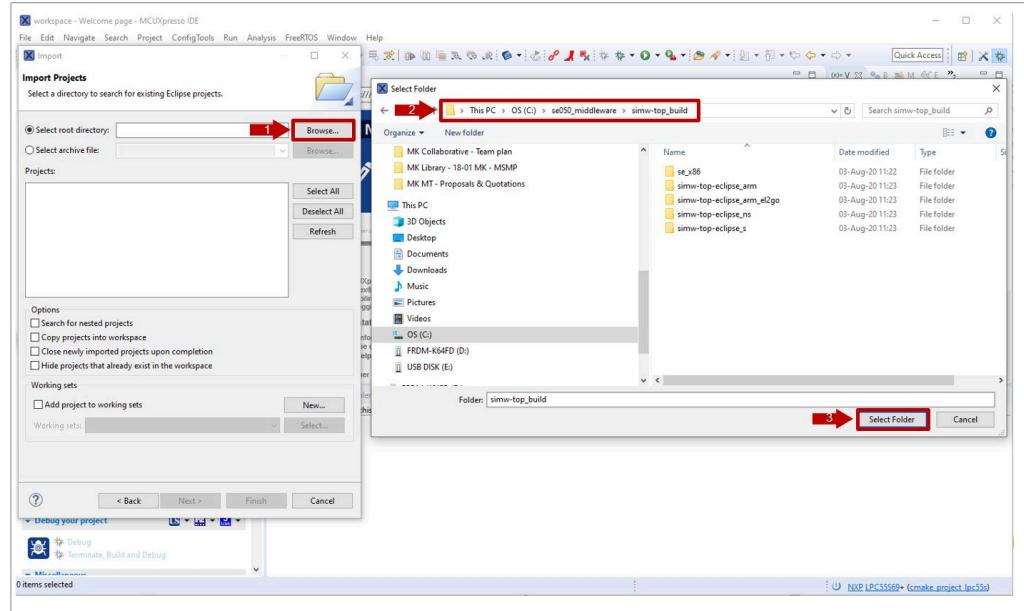

**Figure 28. Import a project wizard (II)**
2. In the import wizard menu, select import "**Existing Projects into Workspace**" from the **General** folder as shown in Figure 28: